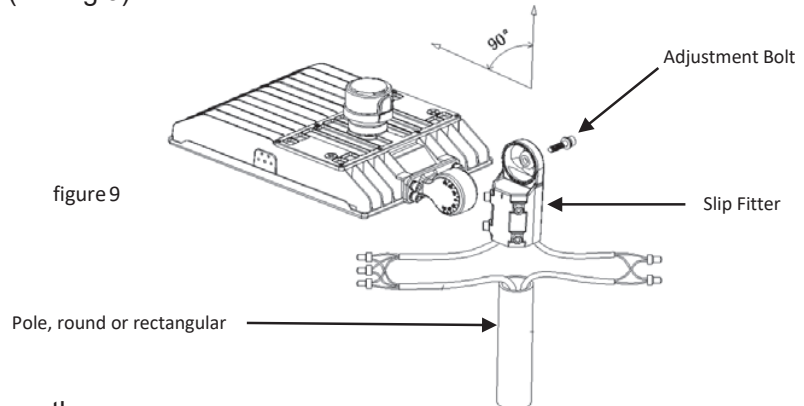

figure 9
1. Connect wires from luminaire to supply (see wiring diagram) and position wires inside pole. (see fig 9)
NOTICE: Adjustable angle is 0-90° (see fig 9)